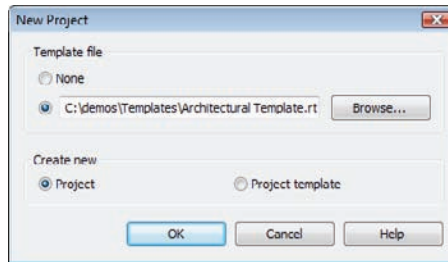

FIGURE 1.5 The New Project dialog allows you to start a new project using a preexisting template file, or you can create a new template file.
5. The New Project dialog shown in Figure 1.5 opens. You can use the default template or no template, or you can create a new template by clicking the Project Template radio button. (We'll cover template creation later in the book.) For now, just click OK to create a new project using the default template. You don't need to alter anything in this dialog.